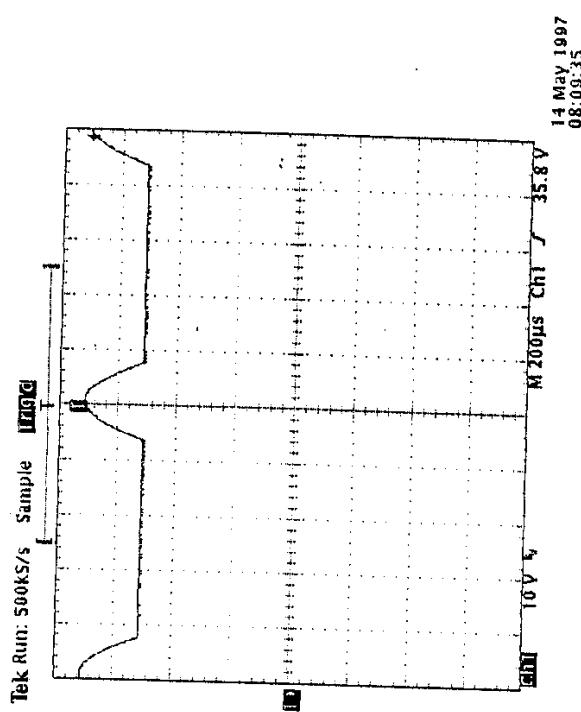

Fig. 2
- Connect the oscilloscope on the diode D8 and check that the wave shape is the same as shown in fig.2; repeat the procedure on the diode D15 and compare with fig.3.